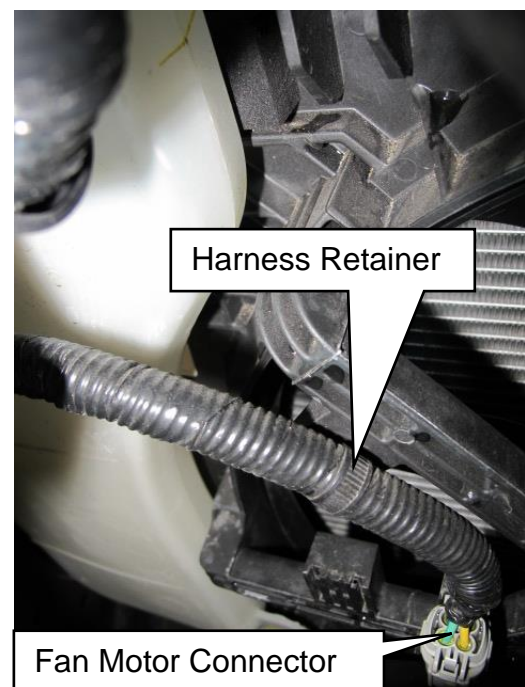

Figure 20
26. Disconnect the cooling fan motor connector and unclip the harness retainer from the fan shroud and motor assembly (Refer to Figure 20).